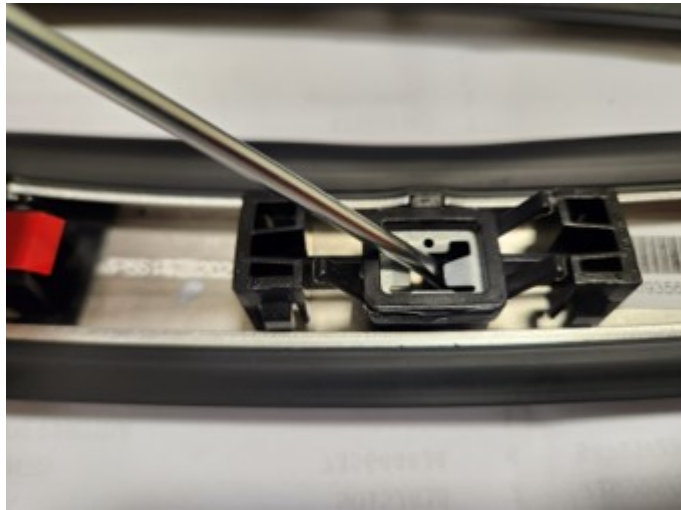
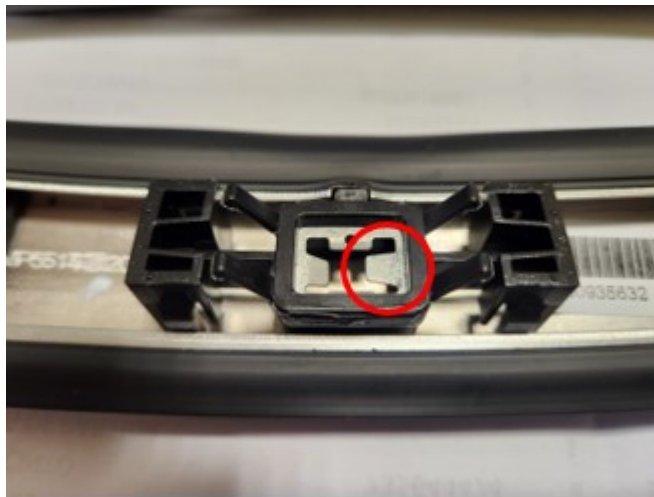

Fig. 2
Fig. 3
3. Adjust the roof retainer clips to ensure molding retention. Using a flat blade screwdriver or equivalent, bend the ears/tabs of the clips upward (Fig. 1), (Fig. 2) & (Fig. 3).